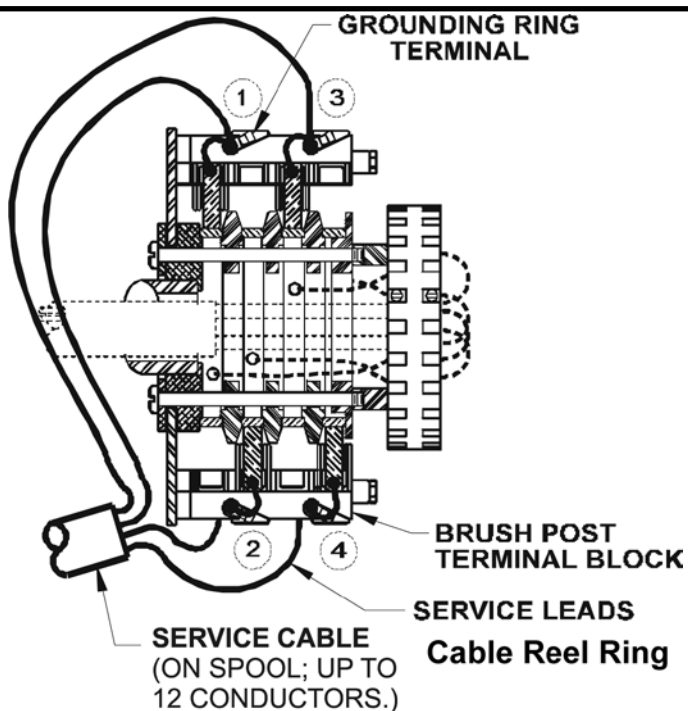

Figure 3
2.5.7 Strip and insert cable leads into the appropriate brush post terminals and torque screws to 5in-lbs. (See page 10 for Color Code Chart used by factory. Figure 3 illustrates Slip Rings, and Figure 3a illustrates Welding Rings.) All weld cable lead ends should be tinned for optimal performance (Fig. 3A)